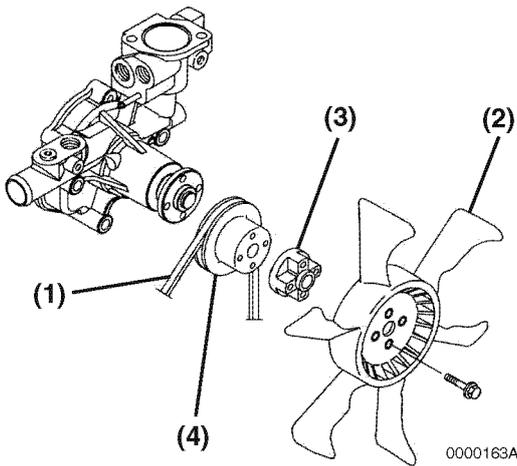

Figure 7-21
14. Reinstall the coolant pump V-pulley (**Figure 7-21, (4)**), spacer (**Figure 7-21, (3)**) (if equipped) and engine cooling fan (**Figure 7-21, (2)**).
15. Reinstall the cooling fan V-belt (**Figure 7-21, (1)**). Adjust as described in *Check and Adjust Cooling Fan V-Belt on page 5-15*.